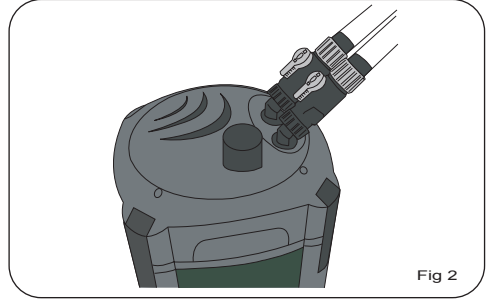

Fig 2
3. Lift the head unit off the canister body. Place it somewhere safe where it will not be stepped on or broken. Fig 2
2. Now push one end of the hose over the hose tail and thread. Push it on as far as possible. Fig 2
1. The Primer for your canister filter is located at the top of the head unit. Fig 2
4. Disconnect the taps from the head unit by unscrewing them. Undo the collar closest to the head of the filter. Not the ones on the same side as the hose. Please note some water will leak out. Fig 2